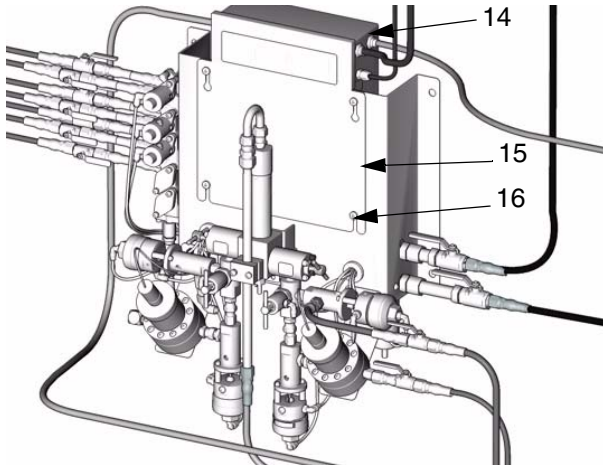

FIG. 18
1. Remove screws and slide the panel (14) back into place.
2. Secure the cover (15) and panel (14) with the 4 screws (16). FIG. 18.